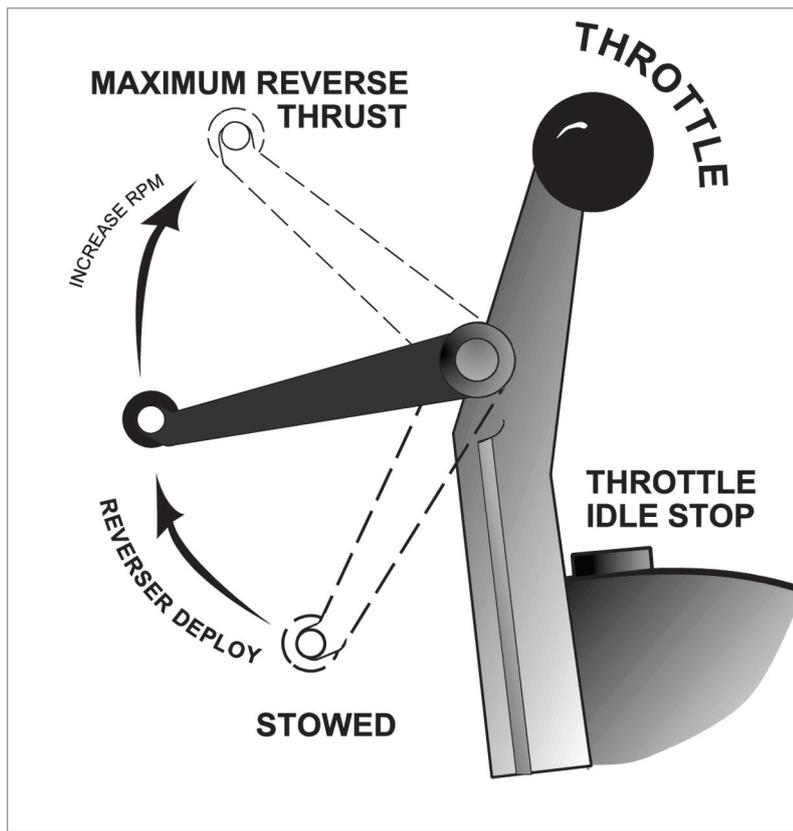

Figure 21.2 Throttle & reverse thrust lever.
*Figure 21.2* illustrates the **throttle lever** and **reverse thrust lever** of an engine fitted with reverse thrust.
- e) If, while Reverse Thrust is selected, the reverser doors inadvertently move to the **stowed (Forward Thrust) position**, the **reverse thrust lever will automatically go to the reverser deploy position** (See Figure 21.2).